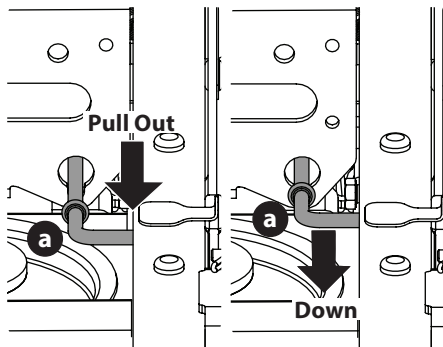

Figure 12
1. Engage the transmission bypass by pulling out on the bypass rod (a) and then placing it down in the slot before releasing (Figure 12).